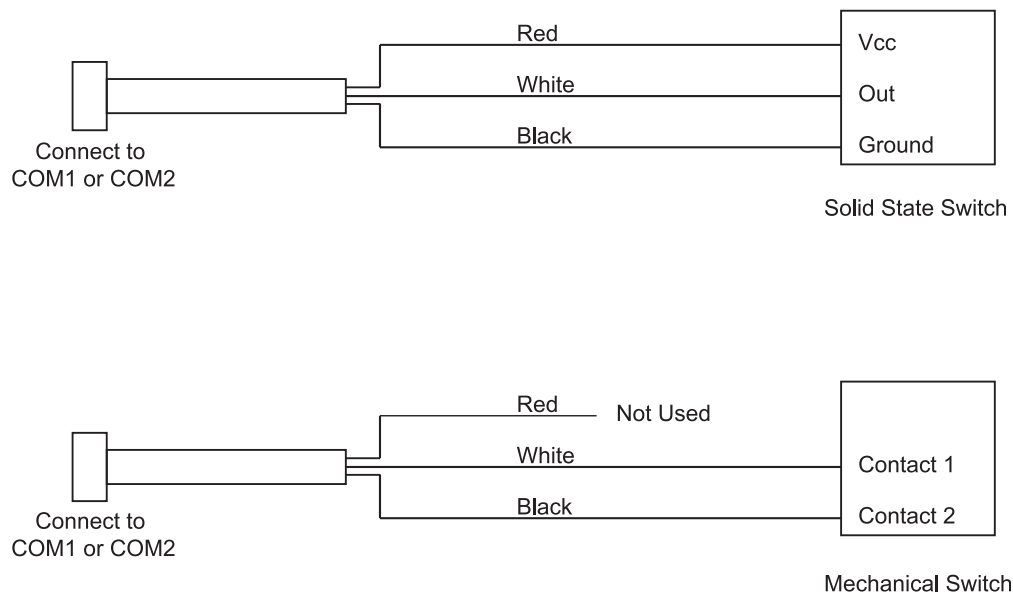

Figure 2-48 *In-Motion Detector Cable Wiring*
2. Wire the cable and switch as shown in Figure 2-48.